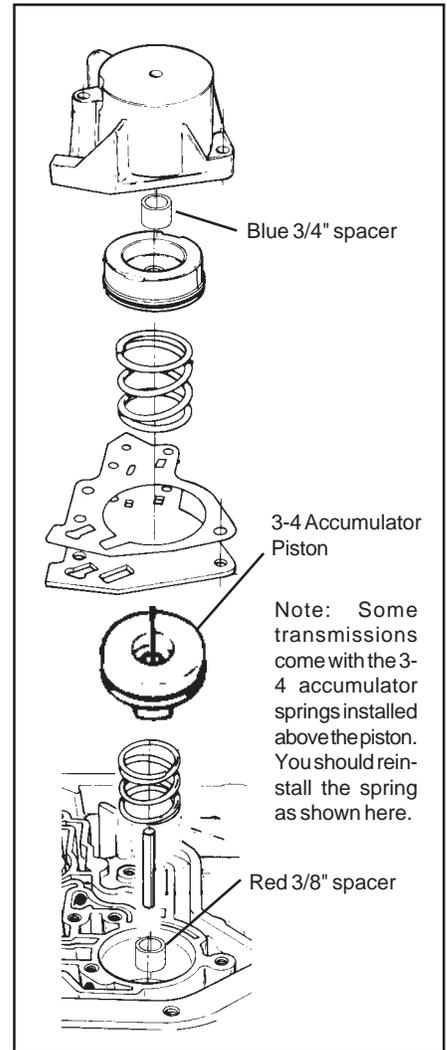

Fig. 10. Street Level Accumulator Assembly Order.
**STEP 12. Street Level Only;** Insert the 3-4 accumulator pin in the case. Over the pin place the **Red** (3/8") spacer, spring and accumulator piston. Use a dab of grease or petroleum jelly to hold components in place (See Fig. 10.)
**STEP 15. Street Level Only;** Remove the spring and piston from the 1-2 accumulator housing (See Fig. 10.) and install the **Blue** (3/4") spacer over the guide pin. Install piston and spring into 1-2 accumulator housing in reverse order of removal. With the spacer installed it will be necessary to compress the accumulator spring when installing the accumulator assembly. To help keep the separator plate and gaskets aligned thread 5 or 6 bolts into the case at various positions. Place gasket on accumulator housing then hold the 1-2 accumulator assembly up to the case. As an assembly aid use two of the long valve body bolts as guides while compressing the accumulator spring. To avoid stripped threads make sure bolts are fully engaged before attempting to